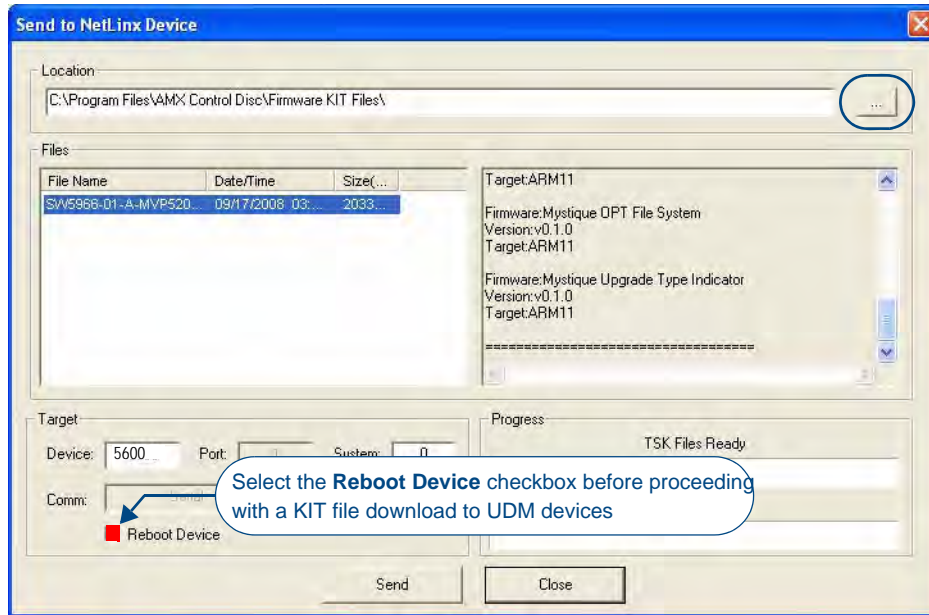

FIG. 31 Send To NetLinx Device dialog (NetLinx Studio)
- Assuming that the specified target directory contains one or more KIT files, the KIT files in the selected directory are displayed in the *Files* list box, with the file's last modified date and time (FIG. 31).